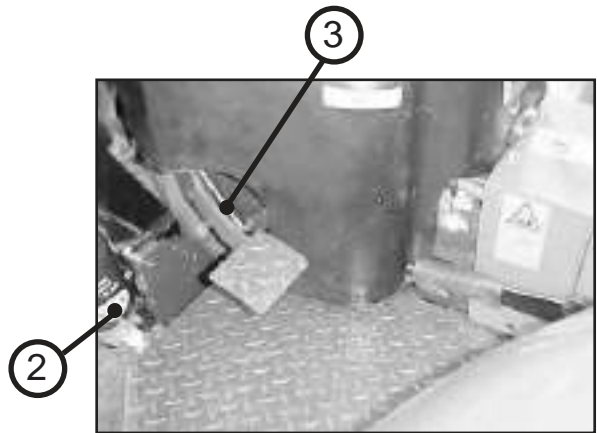

Fig.45
- 1.- Release the cartridge (2) to the left of the engine (Fig. 45)
Clutch pedal (Fig. 45)